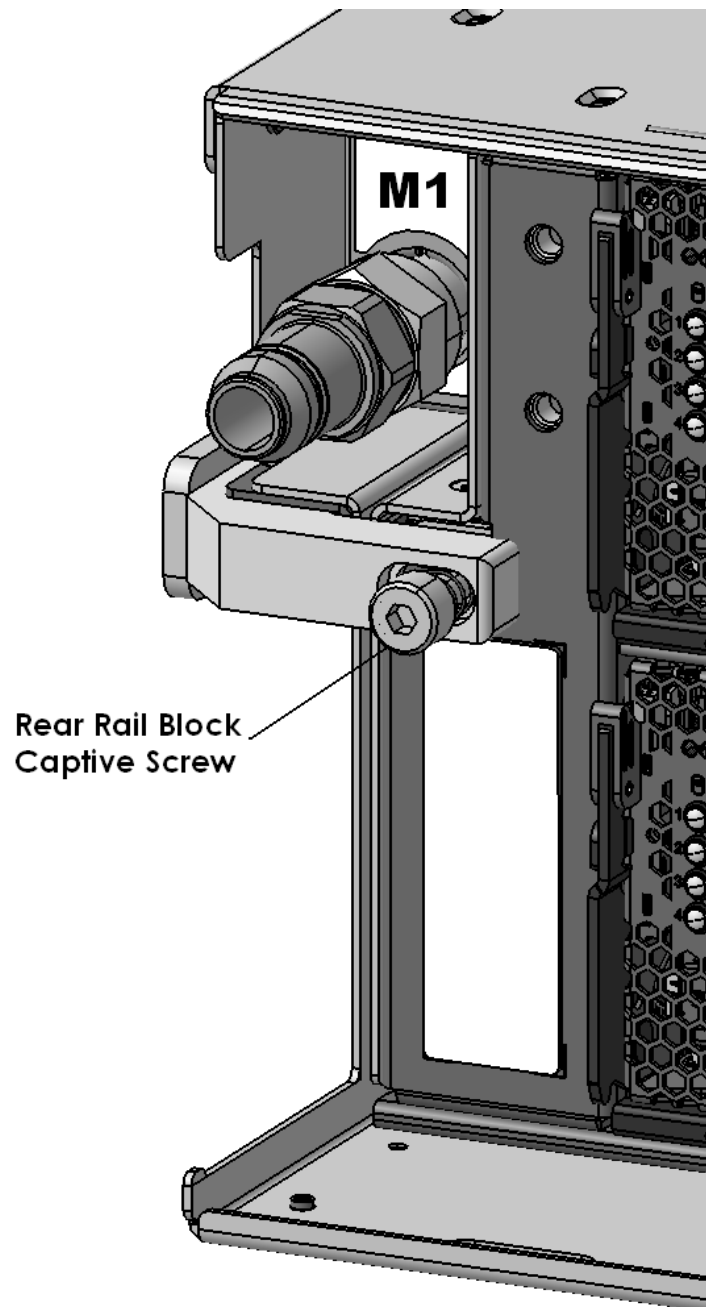

Figure 27: Disk Enclosure Rear Rail Block Captive Screws
- STEP 29 Locate the two Rear Rail Block Captive Allen head screws (one on the left side and one on the right side of the DE) which hold the Rear Rail Block to the Rack Slide-Rails (see Figure 27).